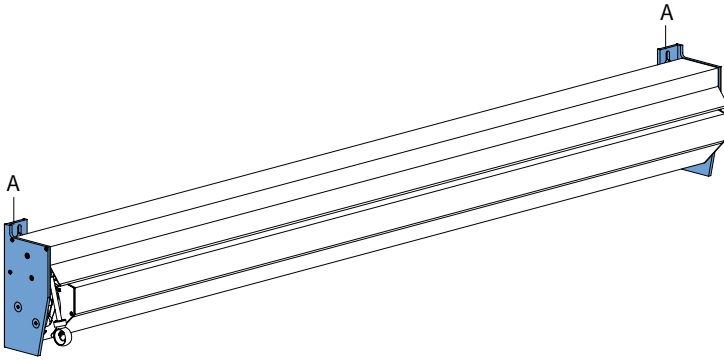

fig. 1.1 Wall support sun awning
For the installation of the awning, the two wall supports (A) need to be level horizontal and vertical. See figure 1.1 and 1.2. The wall supports need to be installed in the same line on the wall. If the wall supports are not in the same line (with an uneven position of the arms as a result) the awning will not function correctly.